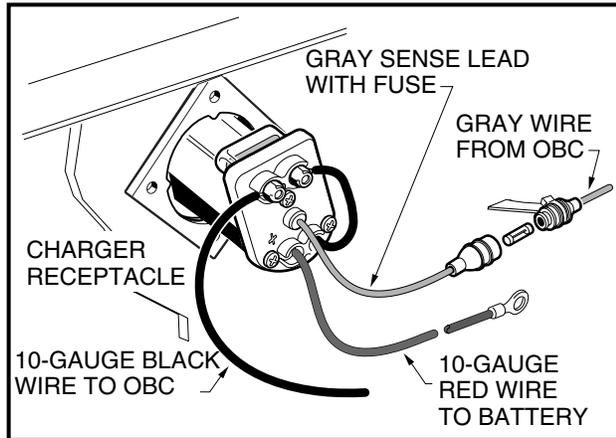

Figure 4-5 PowerDrive Charger Receptacle
- **PowerDrive System 48 and IQ System vehicles (Figure 4-5, Page 4-8):**